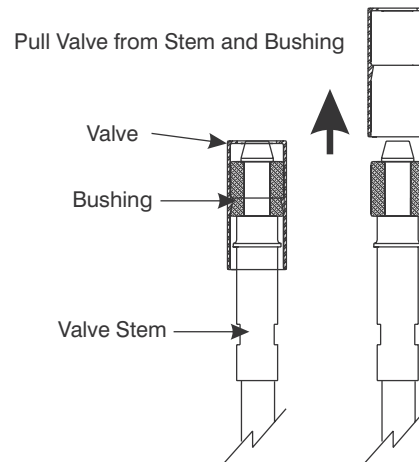

Figure 8-14. Remove the Valve from the Assembled Valve Stem and Bushing.
3. When unseated from the Bushing, the Valve can be pulled from the assembled Valve Stem and Bushing by hand, as shown in Figure 8-14.